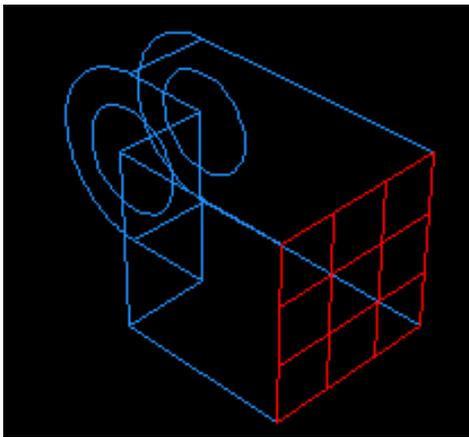

Figure C-46 Apply a load to the solid hinge piece.
3. In the viewport, select the face at the end of the solid hinge piece as the surface to which the load will be applied, as shown by the gridded surface in Figure C-46.